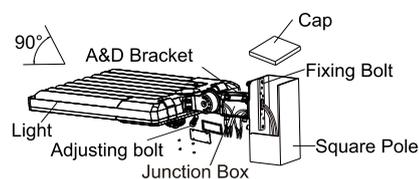

Figure 22
Step 2: Fix A&D bracket to square pole with bolt, open the cover of A&D bracket junction box, pull the wire into bracket junction box, connect the wire properly and cover the junction box. (Figure 22)